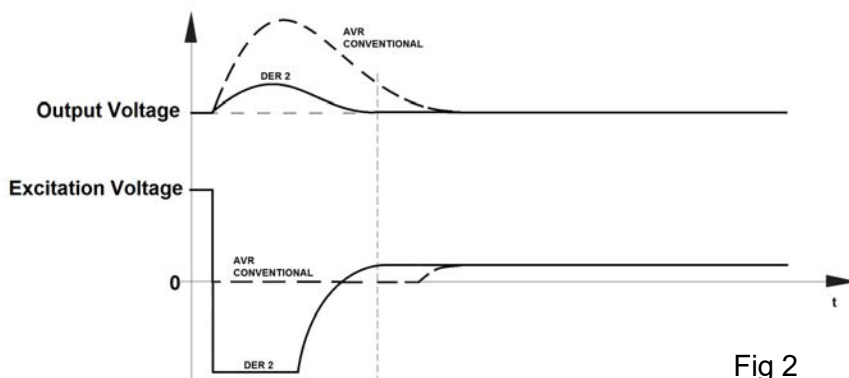

Fig 2
- Power connections through 20 poles⁽¹⁾ Fast-On connector (see fig.2)
The trends of the output voltage and the excitation voltage in function of time of the DER2 controller and a conventional regulator, which does not allow the excitation voltage inversion, are compared in Fig. 2